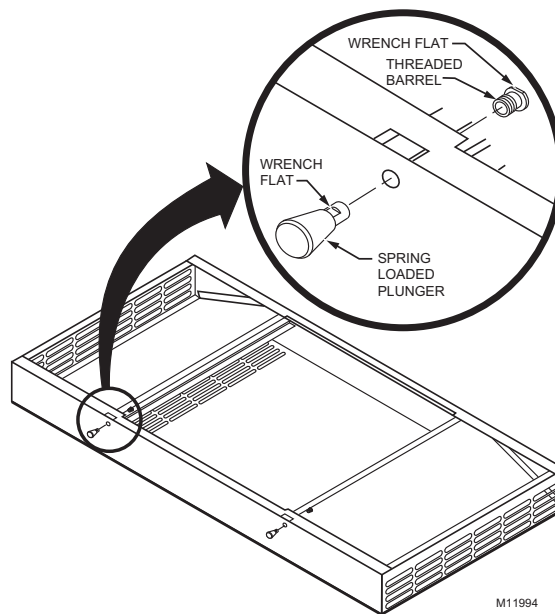

Fig. 6. Lid assembly.
1. Pull the plunger back and twist a quarter turn to reveal the wrench flat on the body of the spring loaded plunger (see Fig. 6).